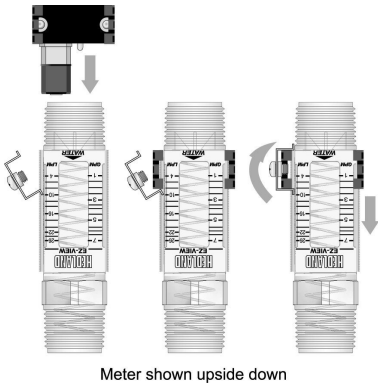

Figure 11: Vibration locking kit installation
- 1. Install one end of the vibration locking kit onto the lpm side of the meter's serrated rail as shown in *Figure 11*.